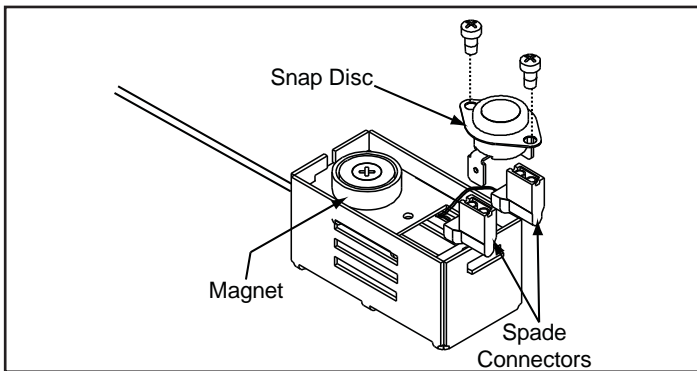

Figure 19.1
4. Pull the snap disc and spade connectors up and out of bracket as shown in **Figure 19.1**